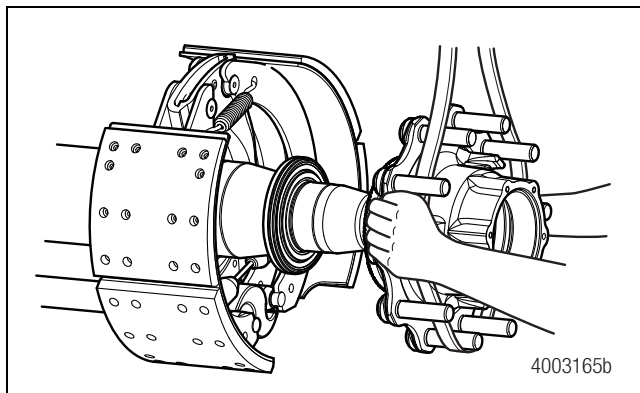

Figure 3.8
11. Remove the outer bearing cone, then the hub and stud assembly from the axle spindle. Support the hub and stud assembly during the entire removal process, as failure to do so may result in damage to the axle spindle threads. Figure 3.8.